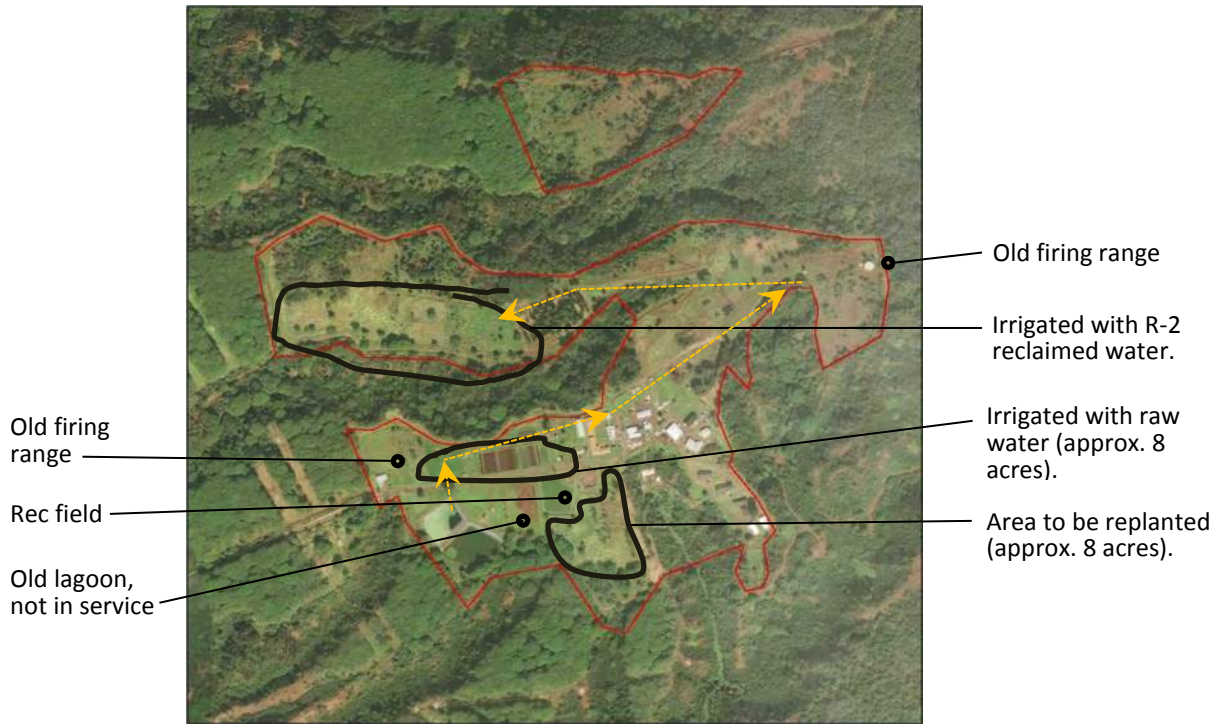

Figure 1: Dashed orange line is approx. location of R-2 force main from lagoon to original potable water tank that has been converted into R-2 storage.
2.2.1. Wastewater. WCF staff said lack of wastewater infrastructure capacity prevents them from expanding the number of beds. Replacing sewage pond liner did not affect inmate bed capacity (currently at 334). All reclaimed wastewater is treated to the R-2 level and pumped to a tank at the upper portion of the site (see Figure 1, next page), from there, the water is gravity fed to underground drip lines within the farm area and to drip lines in a grassed field on the north side of the campus. DOH rules prohibit distribution of R-2 water via sprinklers – has to be limited to underground drip lines. Pine trees on the north side are not irrigated. At the time of the site visit, the hyacinth (eastern) lagoon was not in service. Water and wastewater licensing, permits, maintenance, and monitoring are outsourced: Pural Water Specialty Co. Ltd. for potable water (area of responsibility being at WTP —i.e. Pural does not monitor/provide service water withdrawals from Pump #6 at Waiāhole Ditch) and Aqua Engineers for the wastewater system.
2.2.4. Old Firing Ranges. Abandoned berms are located north of the guard house and east of the potable water tank (Figure 1).